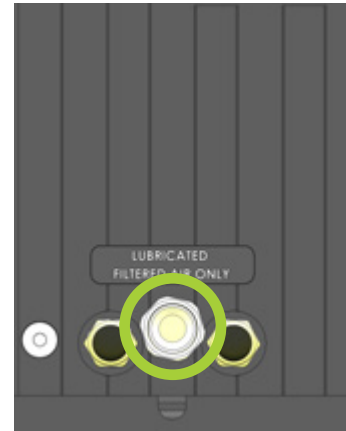

Figure 3
- ▶ Use an Air Supply Line with an inside diameter of 1/2", connect to the 3/8" N.P.T. female inlet located on the side of the Reamer (Fig. 3).